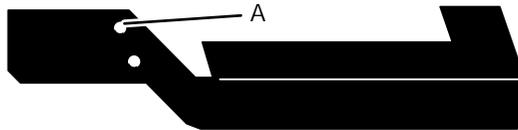

Figure 2.15. There are two holes in the manual cut lever. Attach the lever to the cutter shaft at A.
**Step 6:** Attach the manual cut lever. See Figures 2.15 and 2.16.